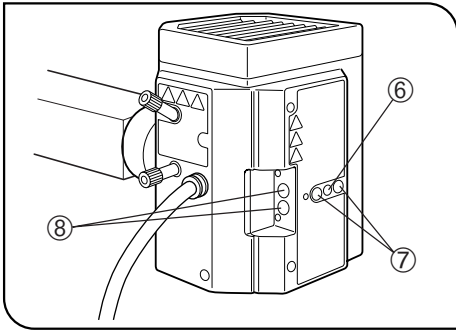

Fig. 4
8. ring the arc image on the center of the left (or right) half of the field by turning the burner centering knobs ⑤. (B)
9. Focus on the mirror arc image by adjusting the mirror focus screw ⑥ (Fig 4) on the rear of the lamp housing using the Allen screwdriver. (C)
10. Overlay the arc image with the mirror arc image by turning the burner centering knobs ⑤. (D)